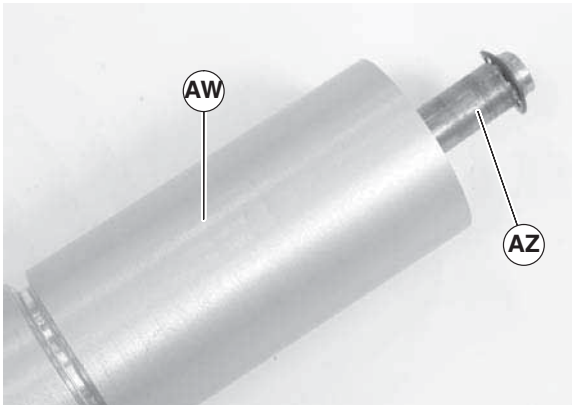

Figure 38
- Slide the shaft assembly (Figure 38, item AZ) out of the pulley (AW).